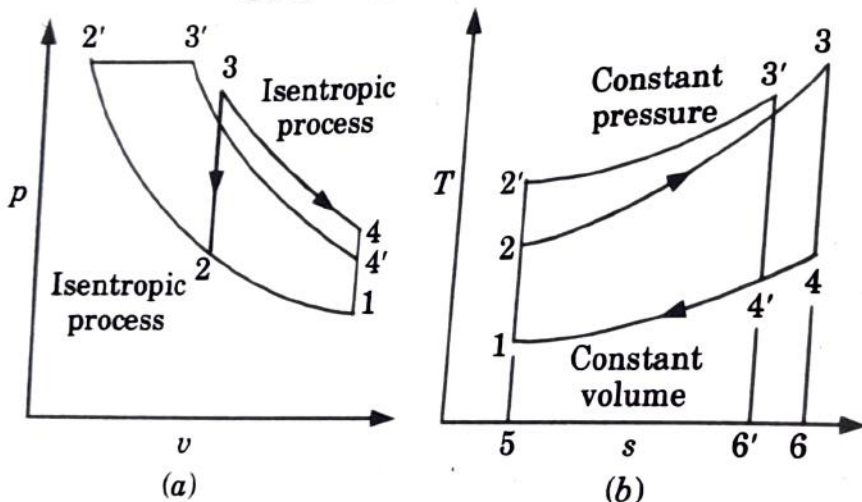

Fig. 1.19.4. Same maximum pressure and heat input.
1. In Fig. 1.19.4, Otto and Diesel cycle are shown on $p-v$ and $T-s$ diagram as :
2. From Fig. 1.19.4(b), it is clear that